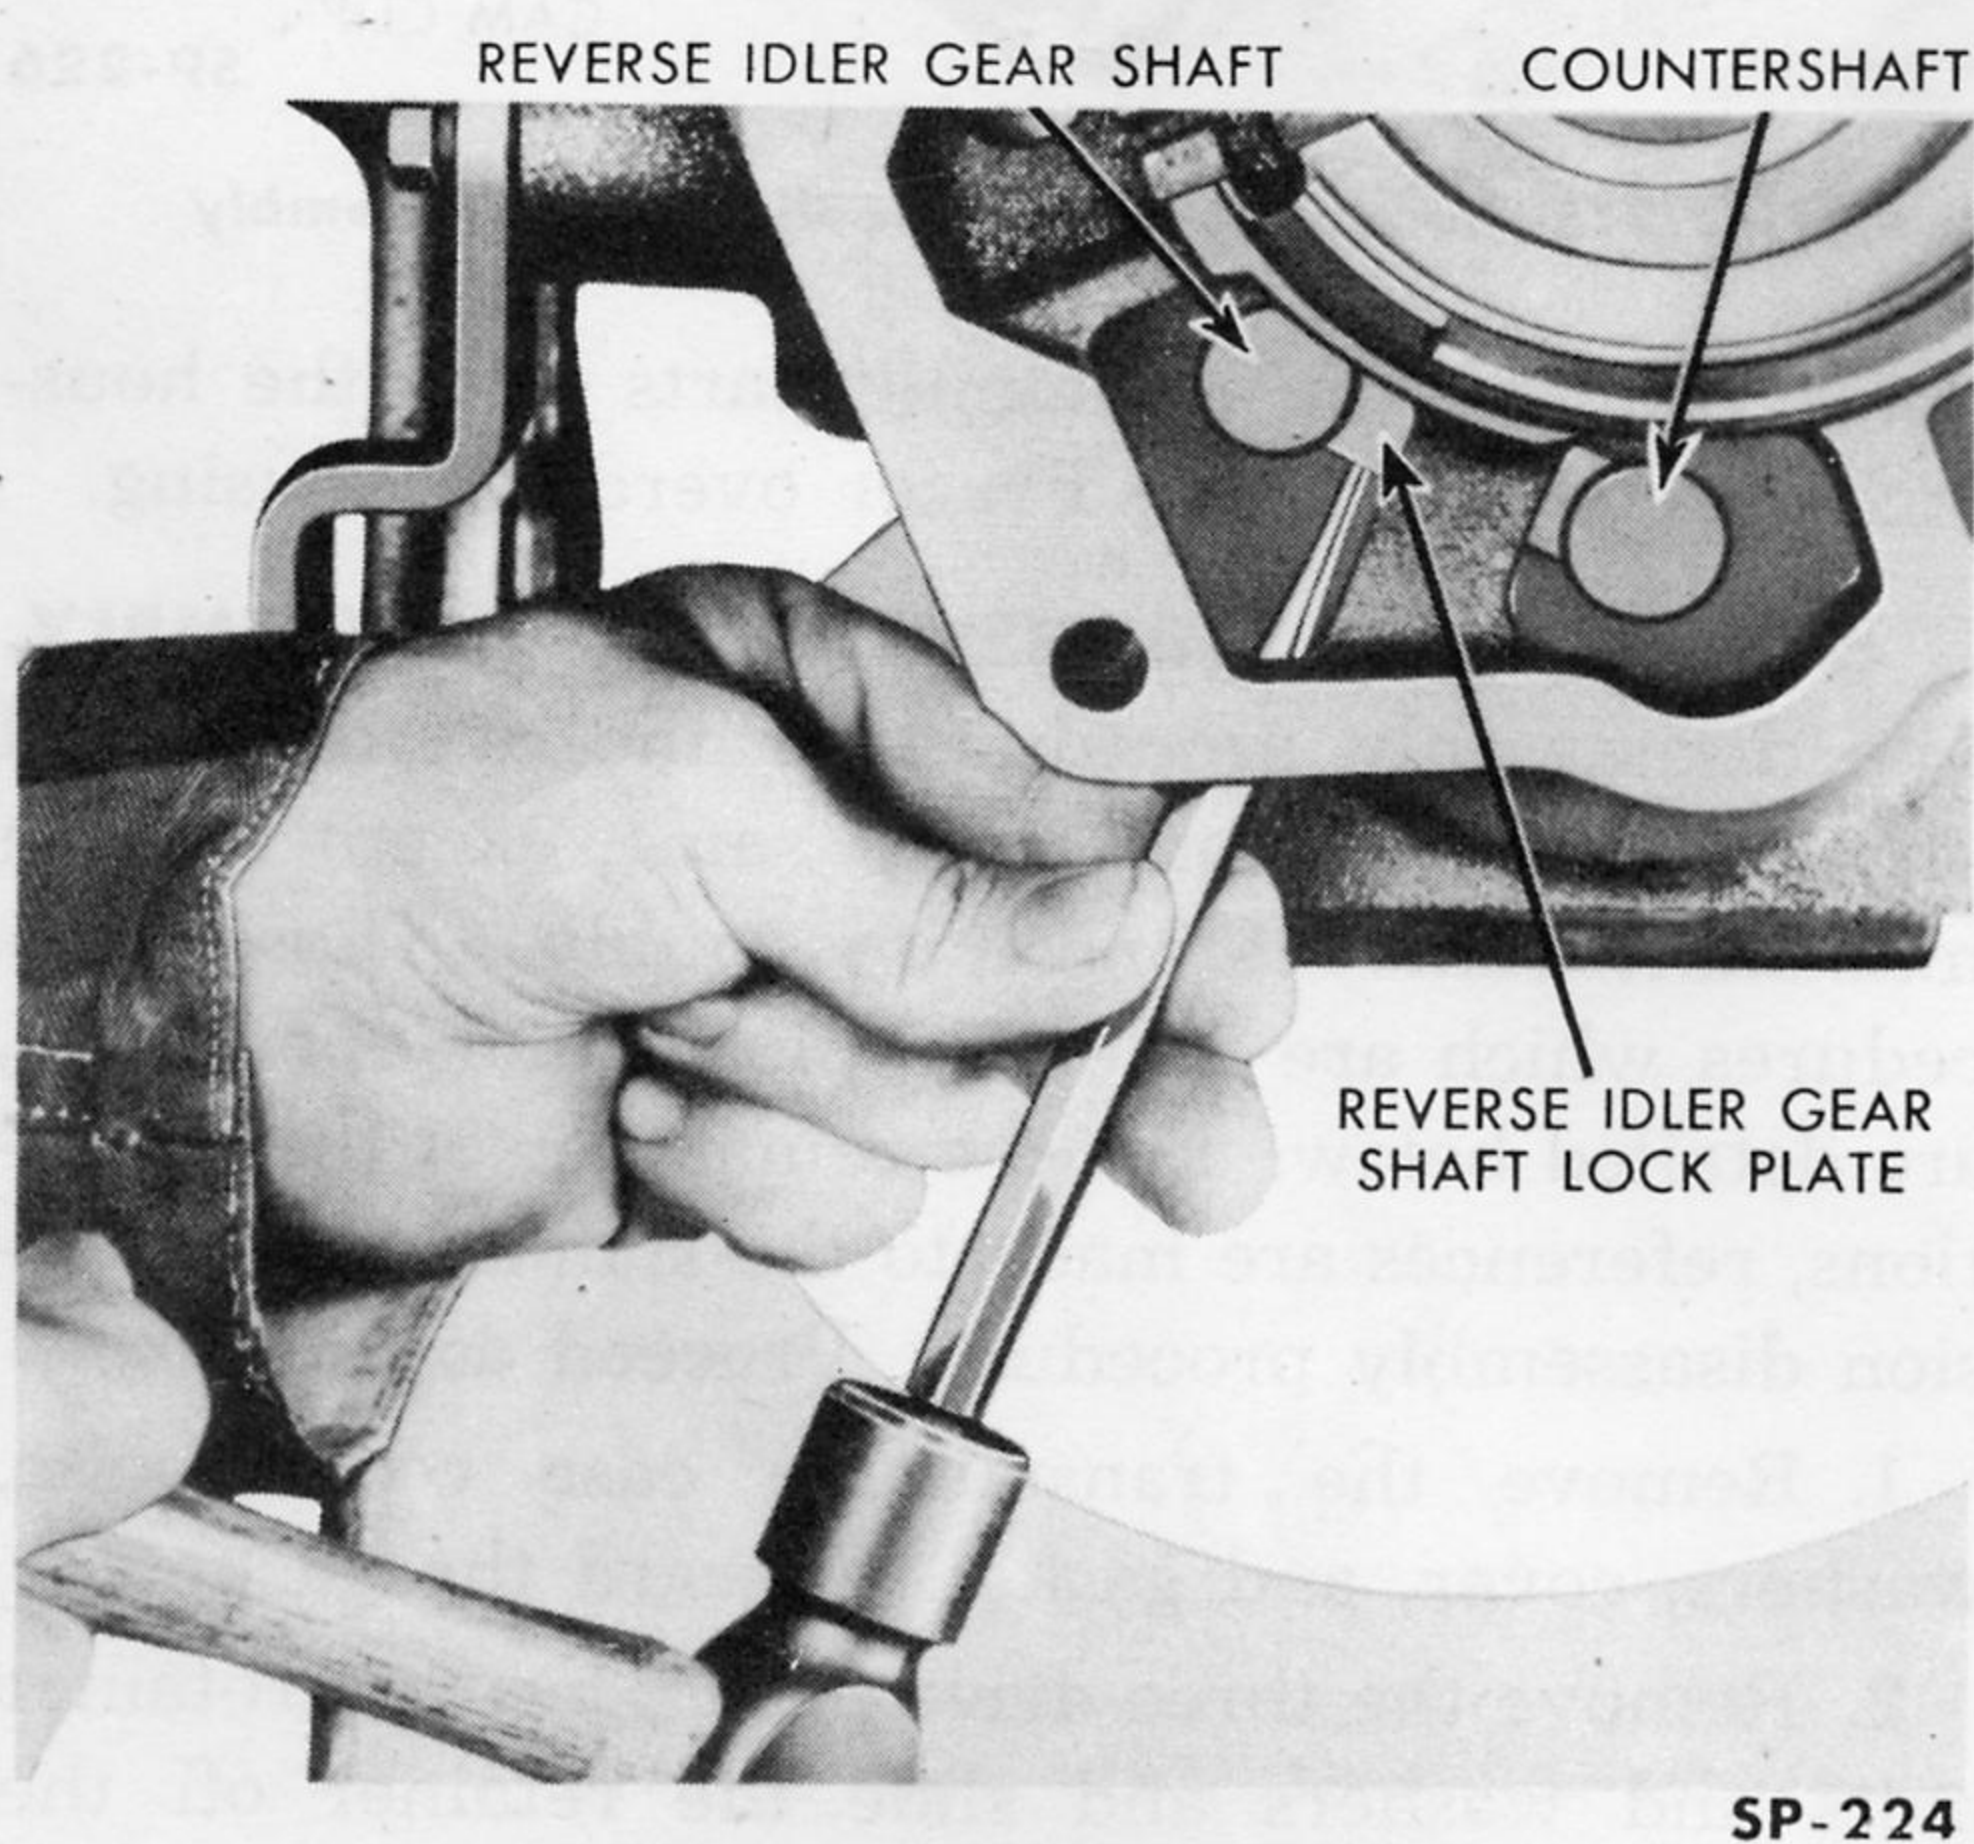

Fig. 216—Removing Reverse Idler Gear Shaft Lock Plate
3. Loosen the bolt holding the overdrive housing adapter and gasket to the transmission case so that the adapter may be moved about $\frac{1}{4}$ of an inch away from the transmission case, allowing access to the reverse idler gear shaft lock plate. Drive out the lock plate using a suitable drift (Fig. 216).